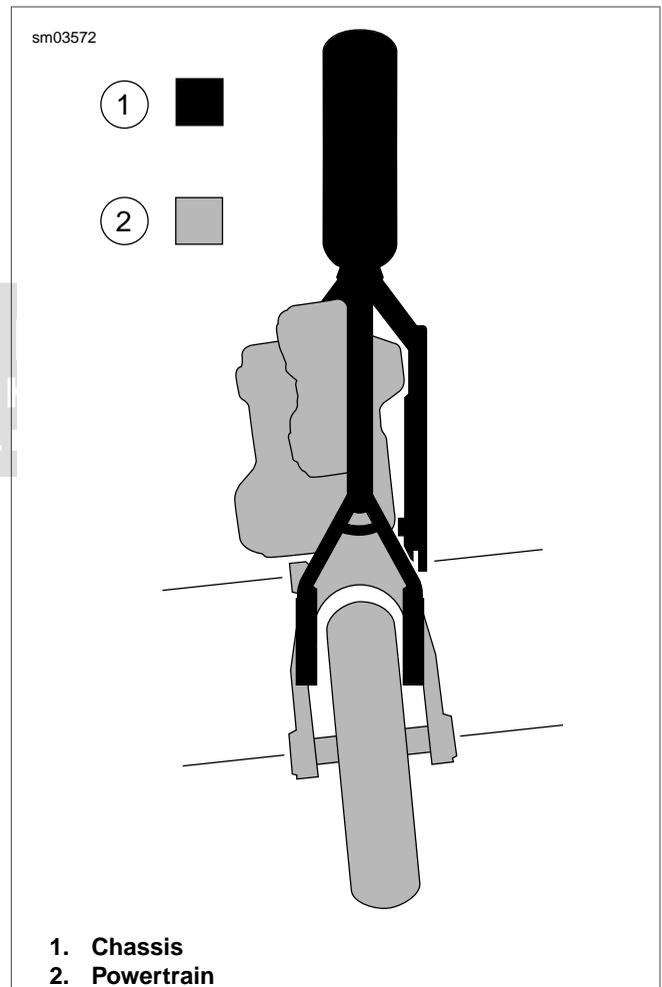

Figure 2-40. Horizontally Misaligned
- f. Loosen jam nuts, and using the center hex, adjust the front stabilizer link as required to obtain equal measurements at all four points +/- 0.030 in. (0.76 mm). See Figure 2-40.